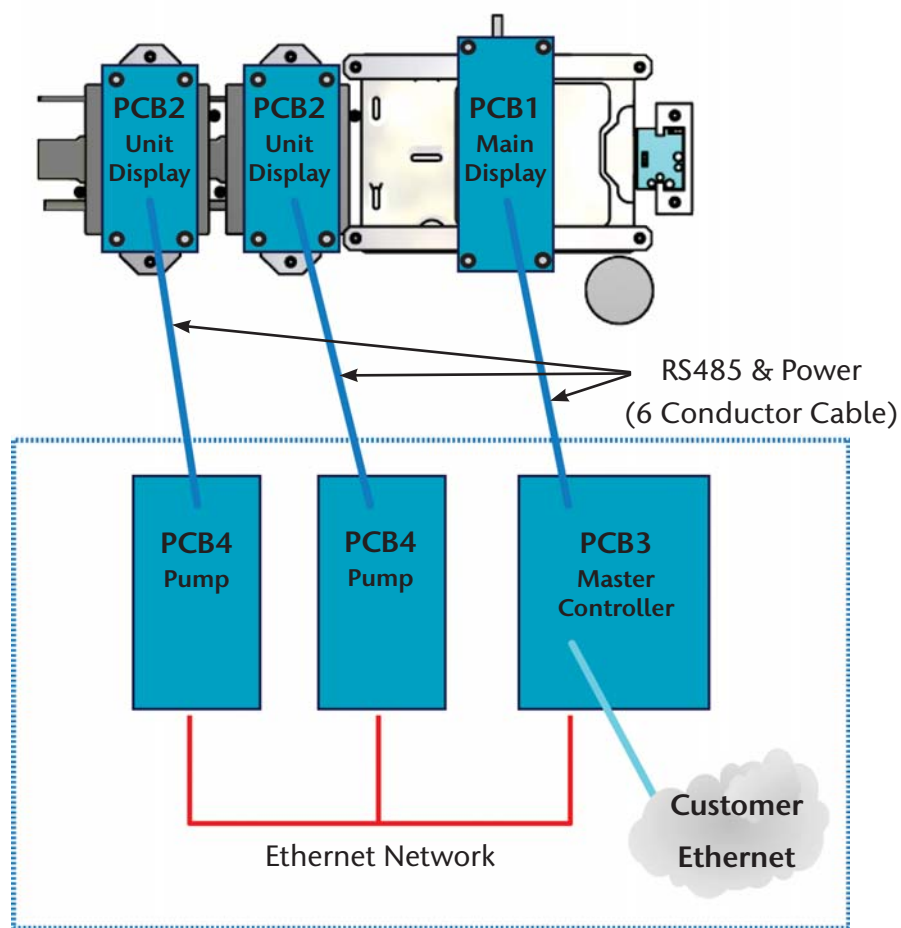

Figure A.2 Duplex Medical Vacuum Configuration - Printed Circuit Boards
The source control system is comprised of four (4) different printed circuit boards (PCBs) with interconnecting wiring (RS485 or Ethernet) for internal communications between the boards. See Figure A.2.